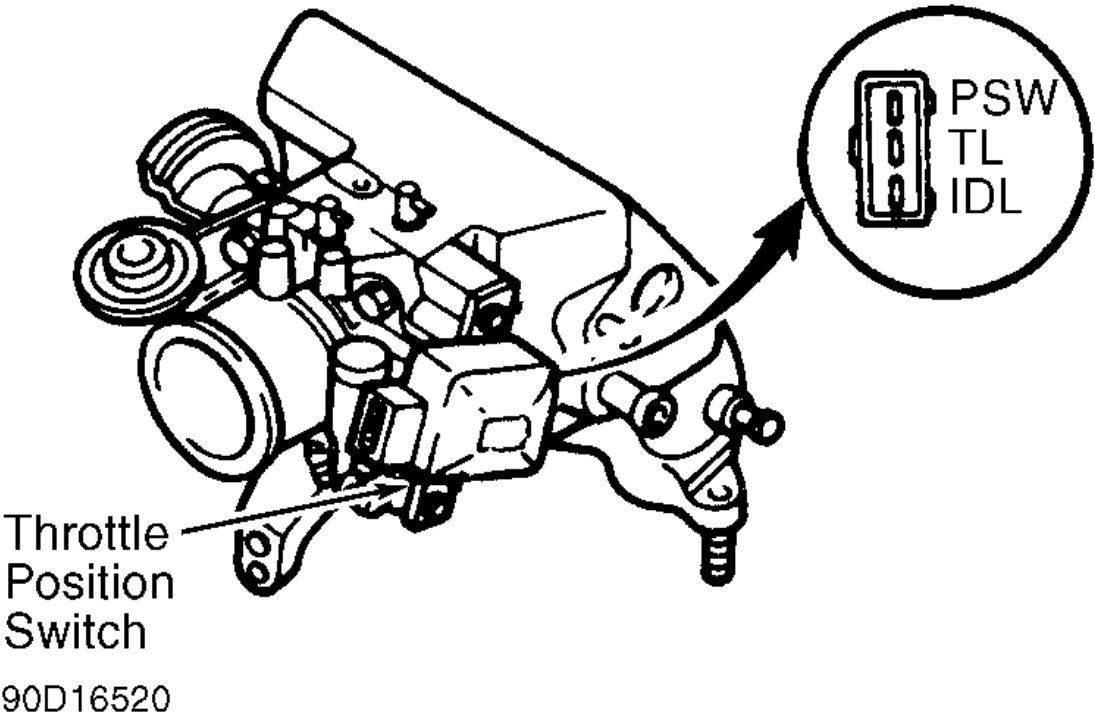

Fig. 3: Throttle Position Switch Connector Terminal ID. (Festiva)
- To adjust, loosen TP attaching screws. Connect ohmmeter between terminals IDL and TL. See Fig. 3 . Insert a .020" (.5 mm) feeler gauge between throttle stop screw and stop lever.